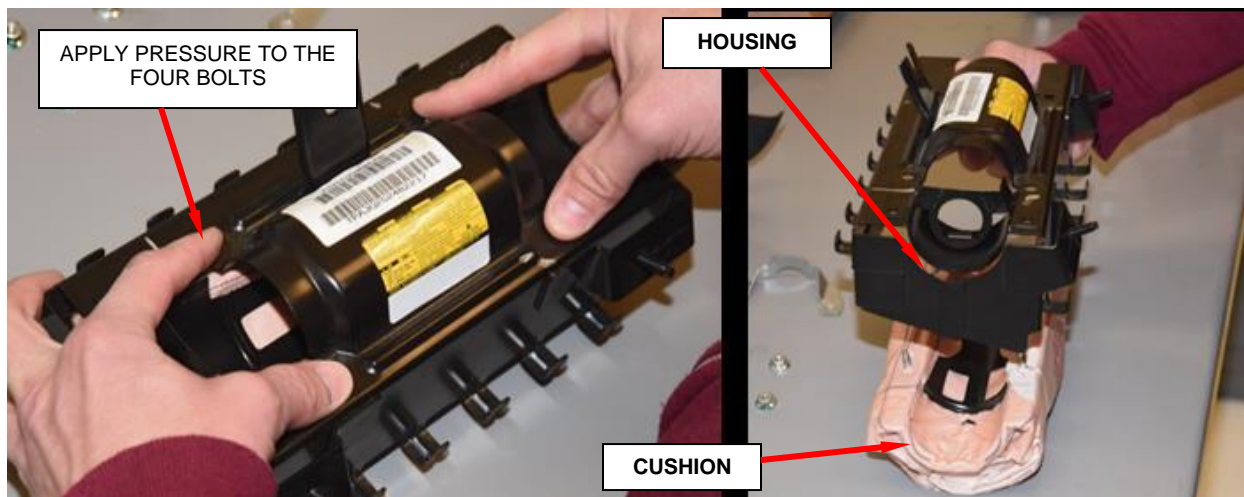

Figure 116 – Remove Airbag Cushion from Housing
- f. Remove airbag cushion from housing by applying pressure to the bolts, set cushion aside (Figure 116).